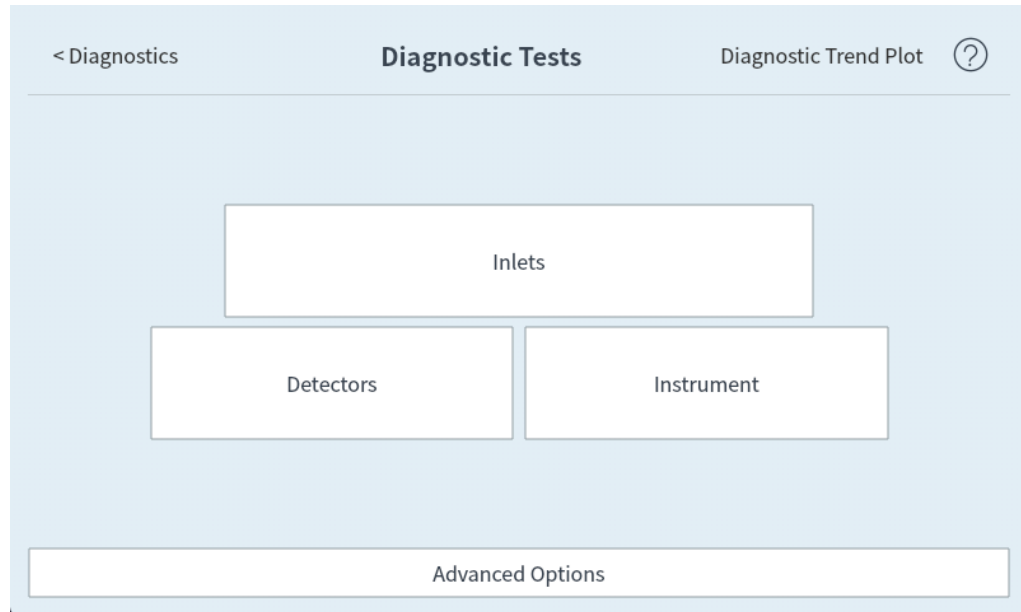

Figure 37. Diagnostic Tests page
2. Select **Diagnostic Tests**. The Diagnostic Tests page appears. See Figure 37.